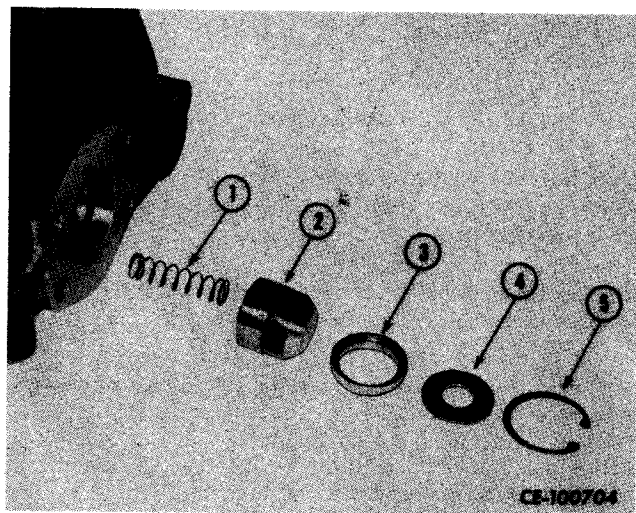

Figure 11-47
Use snap ring pliers to remove snap ring (5, Fig. 11-47) from valve bore. Remove orifice (4), check seat (3), check (2) and spring (1).
Insert spring (1, Fig. 11-47) into valve bore. Lubricate check (2) and seat it in valve bore, over spring. Insert check seat (3) and orifice (4) into valve bore and retain by installing snap ring (5).